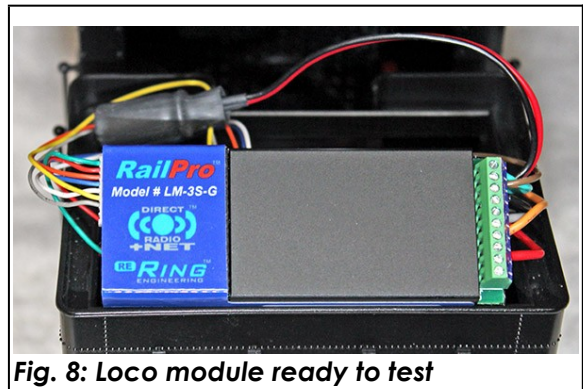

Fig. 8: Loco module ready to test
- ❑ Gently bend the wires under the loco module enough to allow setting it in the fuel bunker; see **Fig. 8**. Allow one side of the loco module to rest on the bunker's rear ledge; the other side will be supported by the wires.